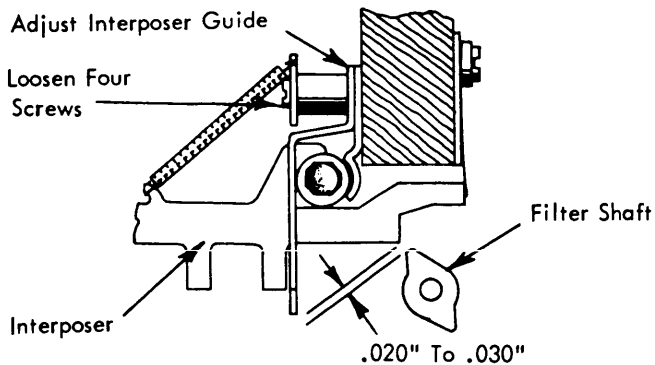

FIGURE 3. Rear Interposer Guide Comb
2. Rear Interposer Guide Comb - Adjust the interposer guide comb up or down so there is .020" to .030" clearance between the bottom edge of the interposers and a vane of the filter shaft (Fig. 3).